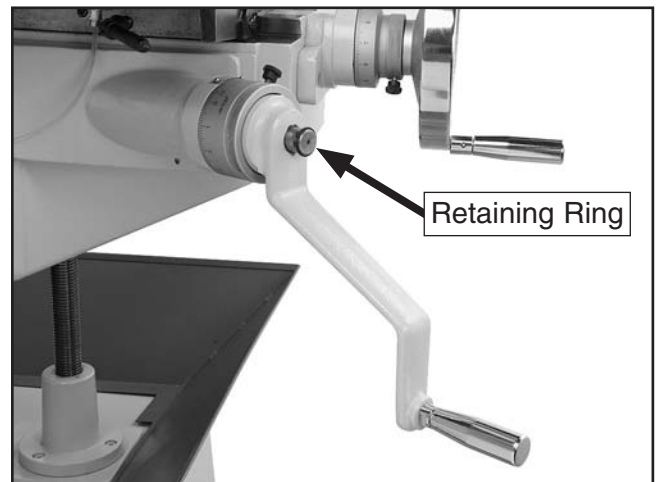

Figure 10. Vertical crank handle properly installed.
2. Use the external retaining ring pliers to remove the retaining ring from the end of the vertical crank screw, reverse the crank handle from its shipping position, then re-install the retaining ring (see **Figure 10**).